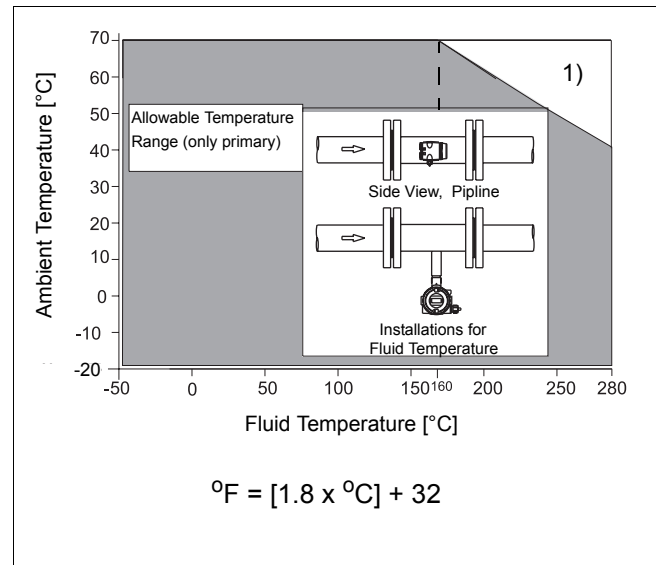

FIGURE 2-8 AMBIENT/FLUID TEMPERATURE RELATIONSHIP
NOTE: The interrelationship between the fluid and ambient temperatures must be considered (Refer to Figure 2-8).
1) Cables suitable for use to 230° F (110°C) can be used for power supply terminals 31 & 32 and contact output terminals 41 & 42 without any reduction in the temperature range specifications. Cables suitable only for temperatures of 175° F (80°C) reduce the temperature range of the flowmeter as shown in Figure 2-8.